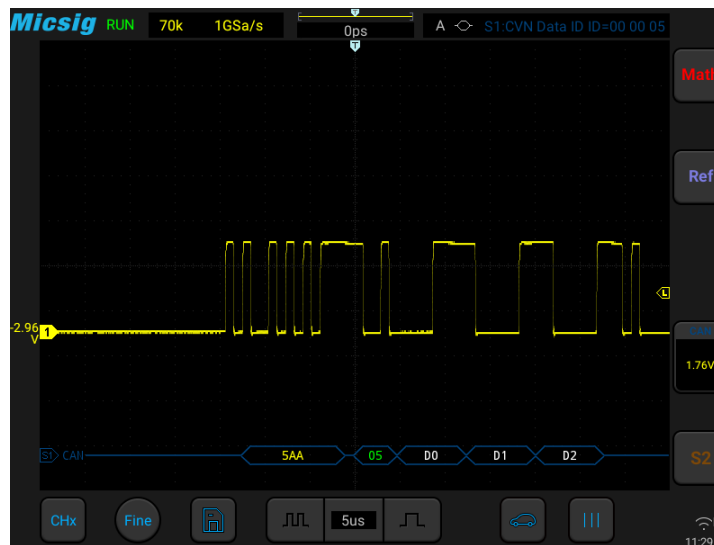

Figure 13-16 CAN Graphic Interface
- (1) Tap S1 to open the decode channel, and click S1 again to open the bus configuration menu;
- (2) Select the bus type as “CAN”, and then click “Ch1”, “Idle High” and “1Mb/s”. After setting, click the blank area to close the menu;
- (3) Open the trigger mode configuration menu and click “Frame Start”;
- (4) Adjust the threshold level according to the signal amplitude; the CAN trigger graphic interface is shown in Figure 13-16: